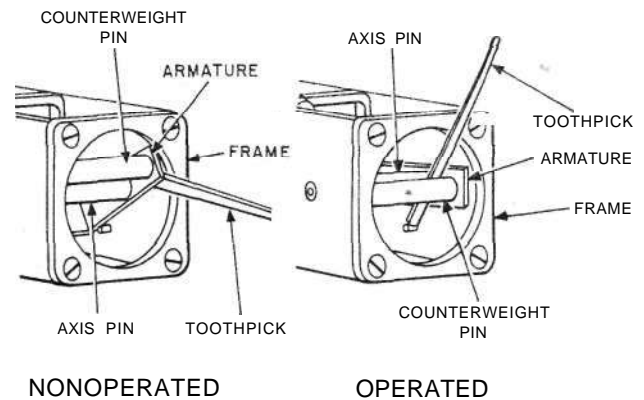

Fig. 18—Blocking 186-Type Relays
3.15 **186-Type Relays:** Fig. 18—Block relays nonoperated by inserting the flat end of a toothpick between the armature and the frame. Take care to insert the toothpick at the corner of the armature, as shown in Fig. 18, and make sure that the toothpick is resting against the circular opening of the frame at a point above its center.